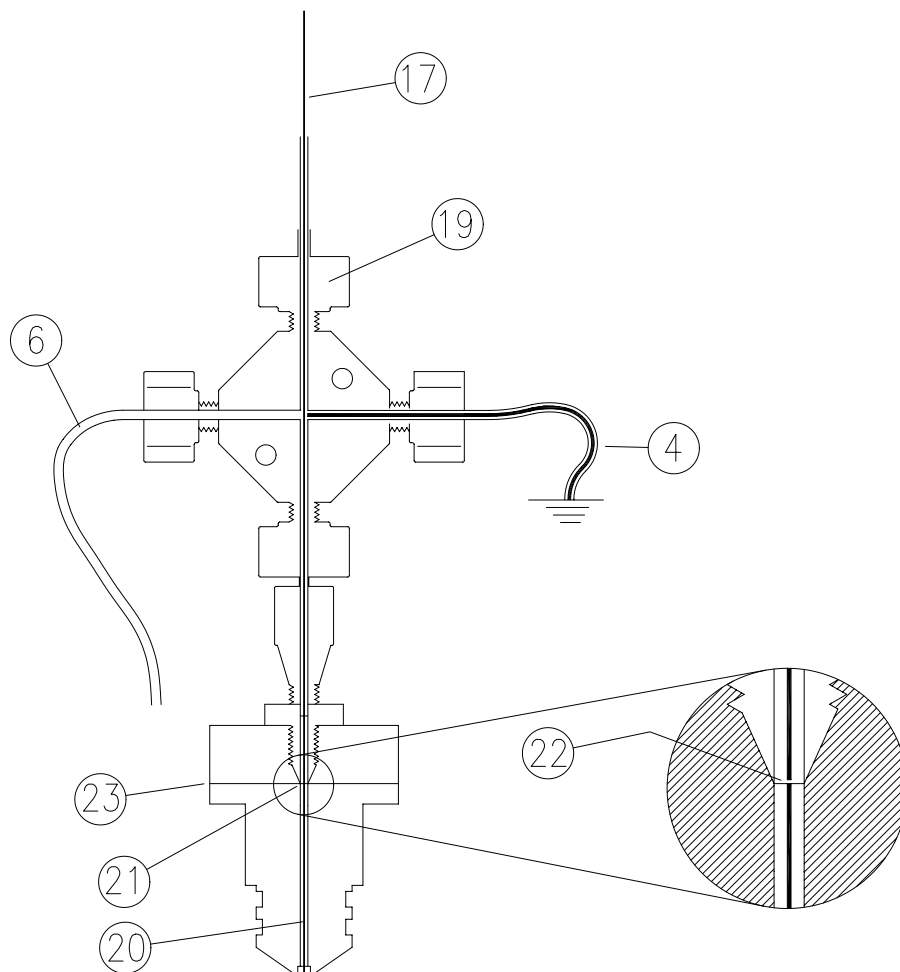

Figure 4. Crosspiece / Nebulizer assembly.
Figure 4 shows a detailed view of the nebulizer and the crosspiece assembly. Insert the CE capillary (17) through fitting (19) down to the beginning of the nebulizer capillary (20) at point (21) in the nebulizer fitting. Between the nebulizer capillary and CE capillary should be a small gap (22) to avoid excessive dead volume and band broadening. Tightly screw the fitting (19) to secure the CE capillary to the crosspiece.
To avoid any hydrodynamic flows, the inlet and outlet of the CE capillary must be on the same level. Therefore, note the inlet level outside of the CEI-100 box and adjust the outlet level by adjusting the height of the support plate (1). The outlet level is at point (23) as it is shown in Figure 4.